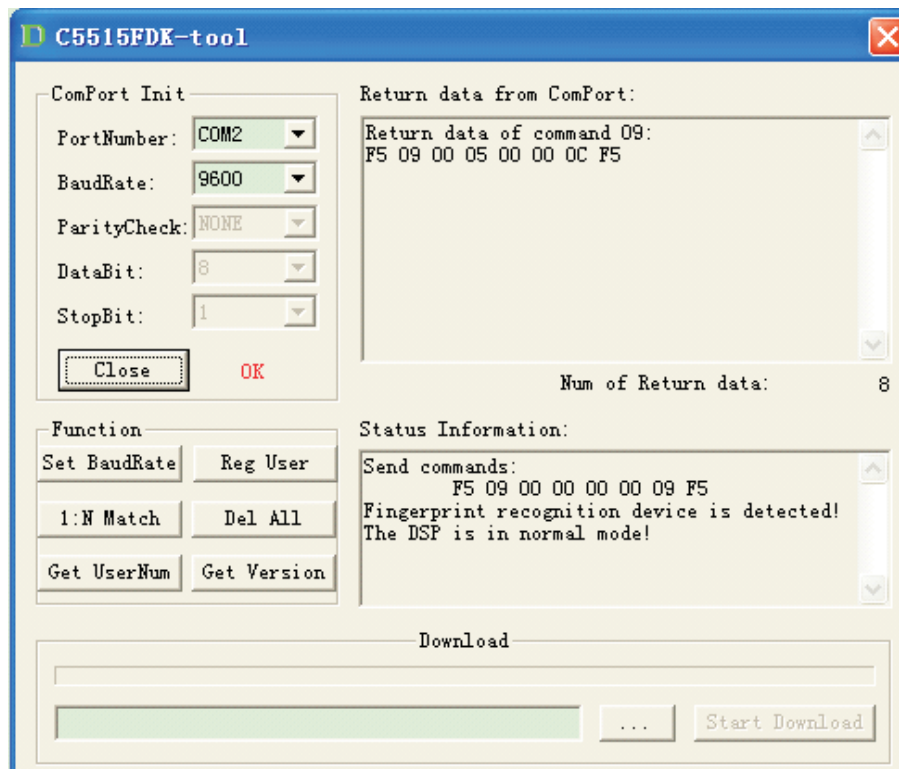

Figure 1. Command Tool Interface
- Select the correct serial port under the pull-down menu “PortNumber”. For example, COM2 is selected in Figure 1. The default BaudRate is 9600.
- Click the “Open” button in the GUI. If the FDK is successfully detected and the DIP switch is in normal using status, the GUI will display as shown in Figure 1.